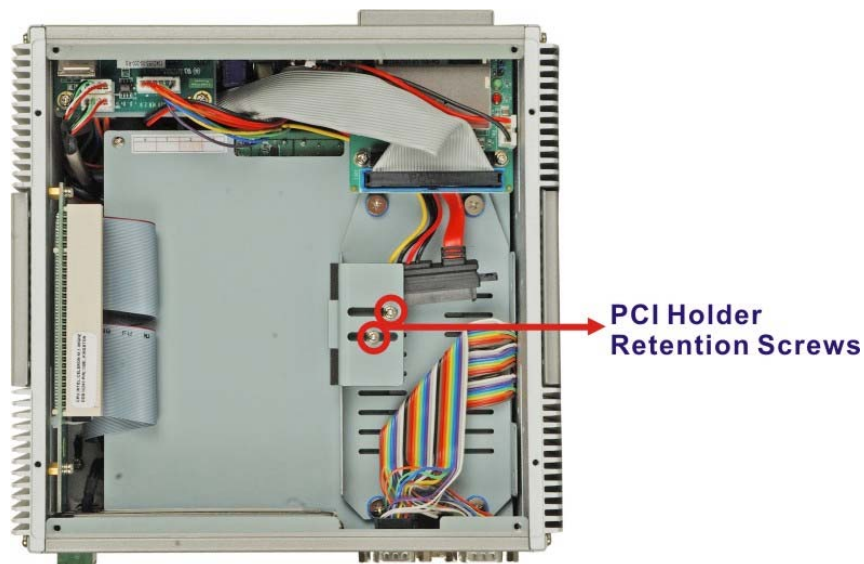

Figure 4-5: PCI Card Holder Retention Screws
Step 2: Remove the two PCI card holder retention screws and remove the PCI card holder (Figure 4-5).